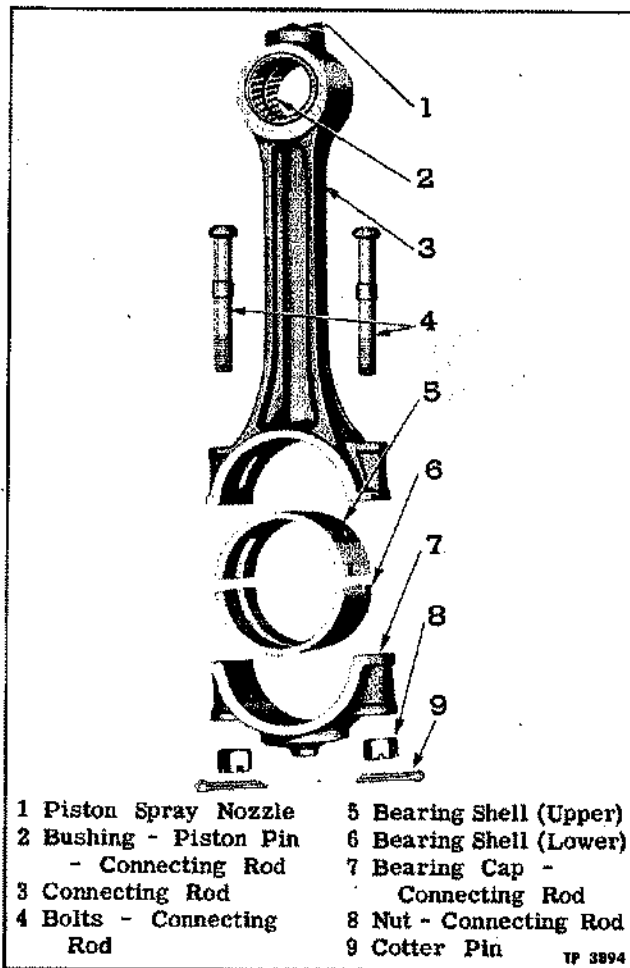

Figure 48—Connecting Rod Assembly Details
The lower end of each connecting rod, as well as the caps, are stamped on one side—"1," "2," "3," etc. These numbers identify caps with rods, and show the particular cylinder in which each rod is used. These locations should always be maintained when rebuilding an engine. The marked side of rod must always be on blower side of cylinder block (fig. 48).
5. Clean and lubricate each connecting rod crankshaft journal. Install upper bearing shell with the one short groove at each parting-line in the connecting rod (fig. 48) then position rod onto crankshaft journal.